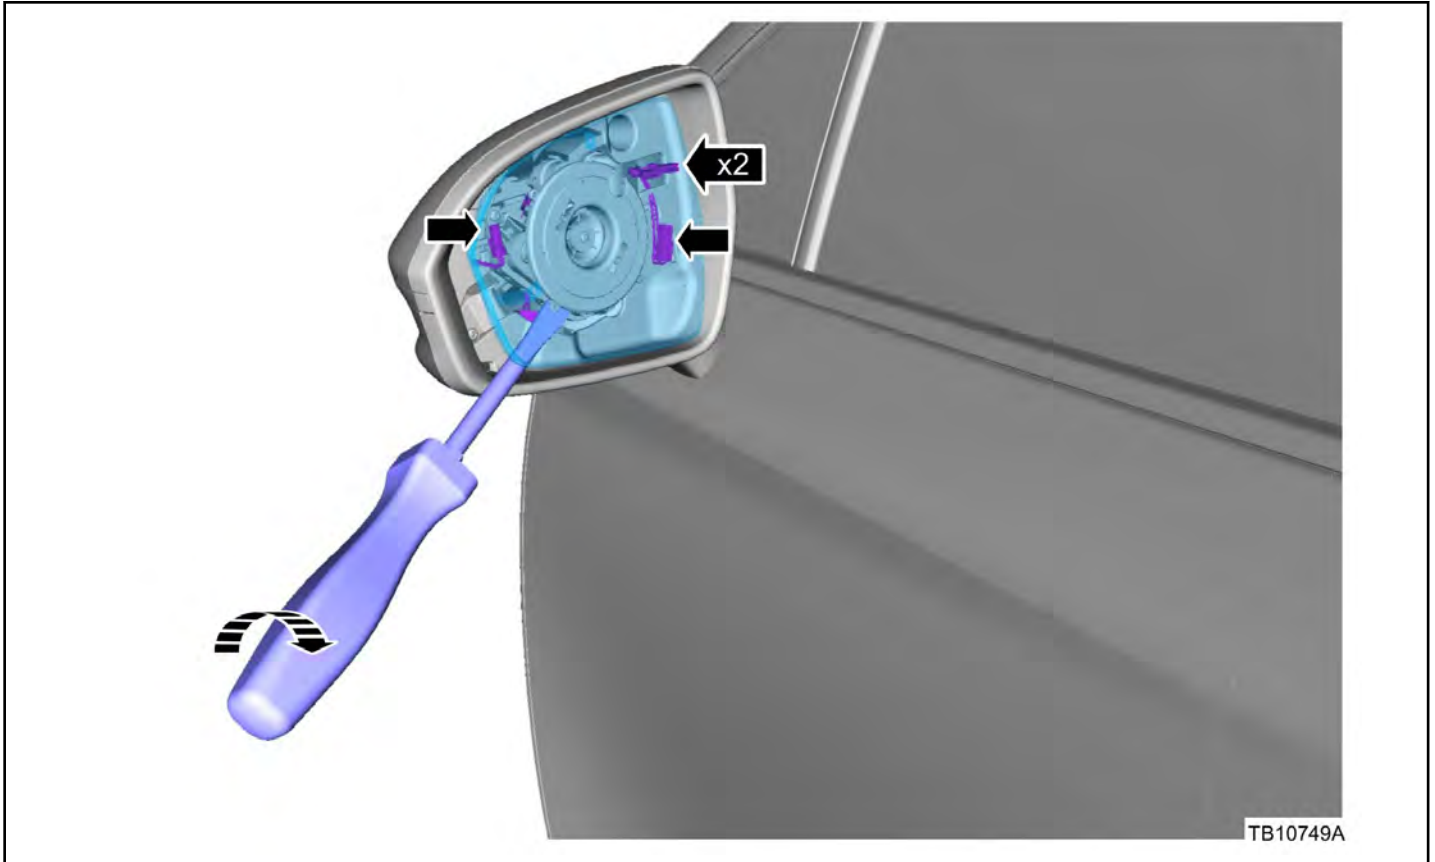

Figure 2 - Article 16-0022
2. Release the mirror glass and disconnect the electrical connectors. Use of a non-marring plastic trim tool is recommended to release the mirror glass. (Figure 2)